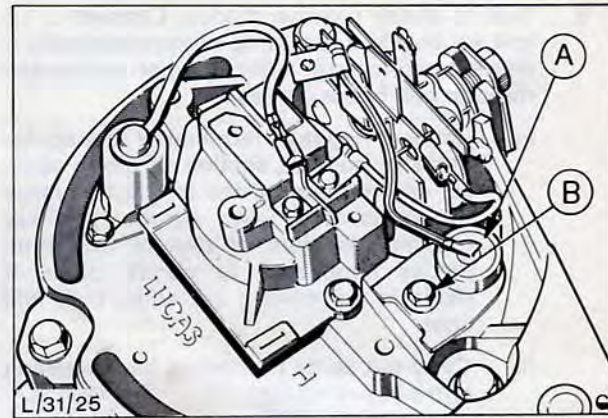

Fig. 41. Removing the surge protection diode (18ACR alternator)
5. Remove surge protection diode, 'A' in Fig. 41.